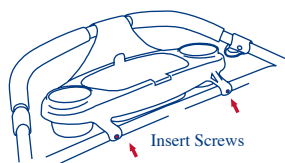

Fig. 9b
- Attach the lower portion of the parent tray to the cross tube, with the screws provided, as shown in figure 9b.